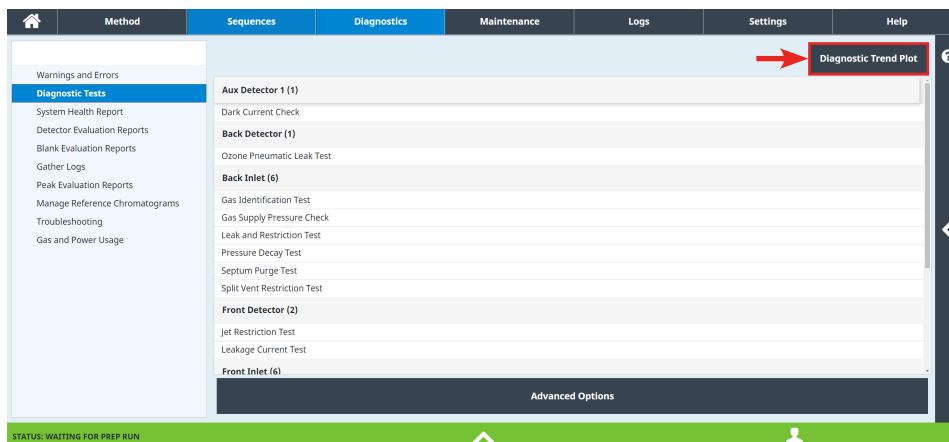

Figure 2. Generating a diagnostic trend plot: the Diagnostic Trend Plot button.
- For a diagnostic trend plot, click **Diagnostics Test > Diagnostics Trend Plot** (Figure 2).